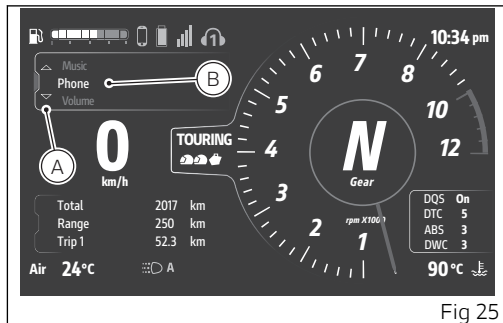

Fig 25
- Select the Interactive Menu (A, Fig 25) by pressing and holding the joystick in position ▲ for a long time.
- Use the joystick ▲ ▼ to select "Phone" (B, Fig 25) and press ENTER.